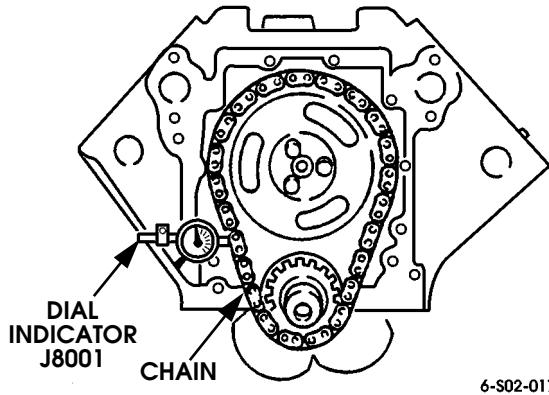

Figure 2-111: Measuring Timing Chain Deflection
1. Measure timing chain deflection. Deflection must not exceed 0.810 in. (21 mm). Use dial indicator J8001 (Figure 2-111).
1. Remove oil filter from adapter (Figure 2-111). Discard oil filter.